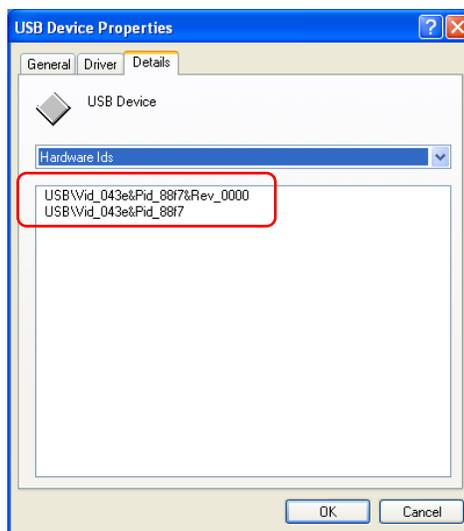

Fig. 3
- F. Under the drop down list of USB Device, select Hardware Ids as shown in Figure 3 and 4.